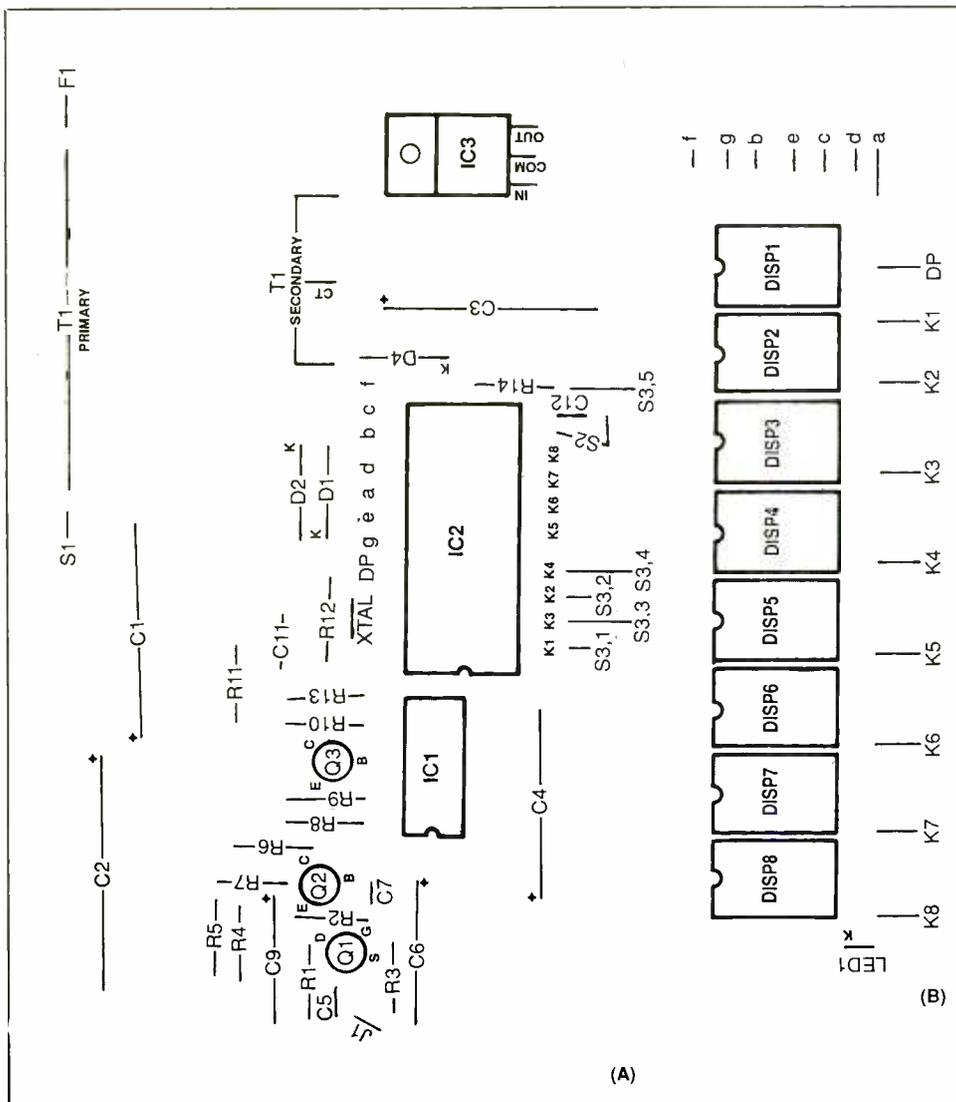

Fig. 4. Wiring guides for main and display boards.
Bend the pins of regulator *IC3* at a 90-degree angle toward the rear of the device. Plug the pins into the *IC3* holes in the main board in the orientation shown in Fig. 4(A). Press the regulator down on the board so that its metal surface lies flat against the top of the board and trace the outline of its mounting hole onto the board. Remove and set aside the regulator. Then use a $\frac{1}{32}$ -inch drill to bore a hole through the board in the center of the drawn outline.
As above, prepare eight 7-inch stranded hookup wires. Plug one end of each of these wires into the holes in the board labeled *S1*, *S2*, *S3*, *S4*, *S5*, *S6*, *S7*, and *F1*. Solder all wires into place as you install them. Keep in mind that the project contains a high-gain, high-frequency amplifier section. Therefore, if you decide to wire on perforated board, follow the component layout shown in Fig. 4(A) as closely as possible. Also, keep all component leads as short as possible. Temporarily set aside the main circuit-board assembly.
Place the display board in front of you in the orientation shown in Fig. 4(B). It is important that you use sockets for mounting the seven-segment displays on this board. Fortunately, all you need are the low-cost conventional sockets commonly used with DIP ICs. Though the displays themselves have pins missing on them, you can use IC sockets without having to modify them. (Note: If you use the display board from the source given in the Note at the end of the Parts List, you must